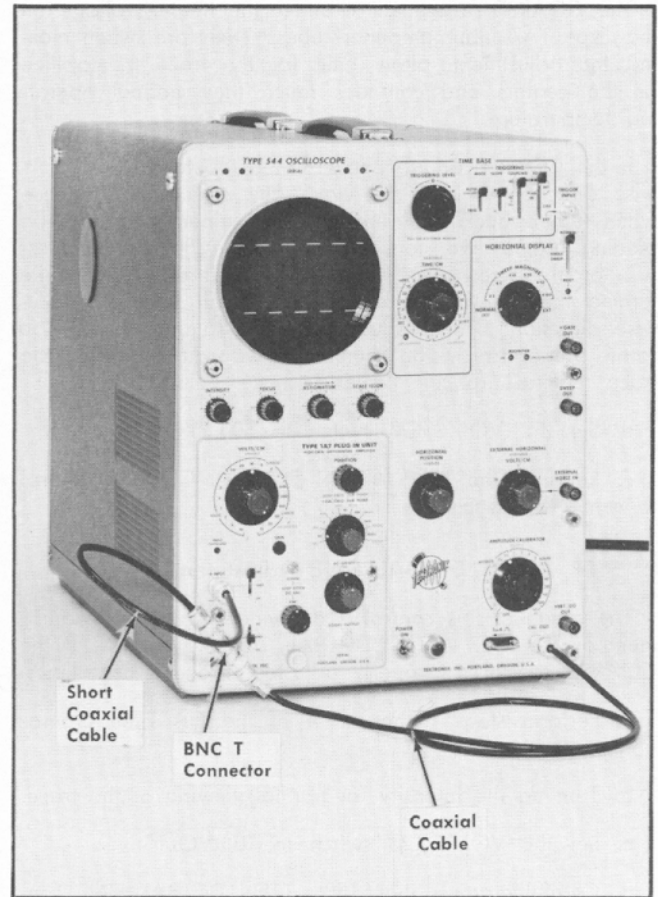

Fig. 2-4. Setup at completion of step 12 in the First-Time Operation procedure.
12. Connect a BNC T connector to the -INPUT connector. Disconnect the coaxial cable from the +INPUT connector and connect it to the T connector. Connect a short coaxial cable from the T connector to the +INPUT connector. Fig. 2-4 shows the setup.